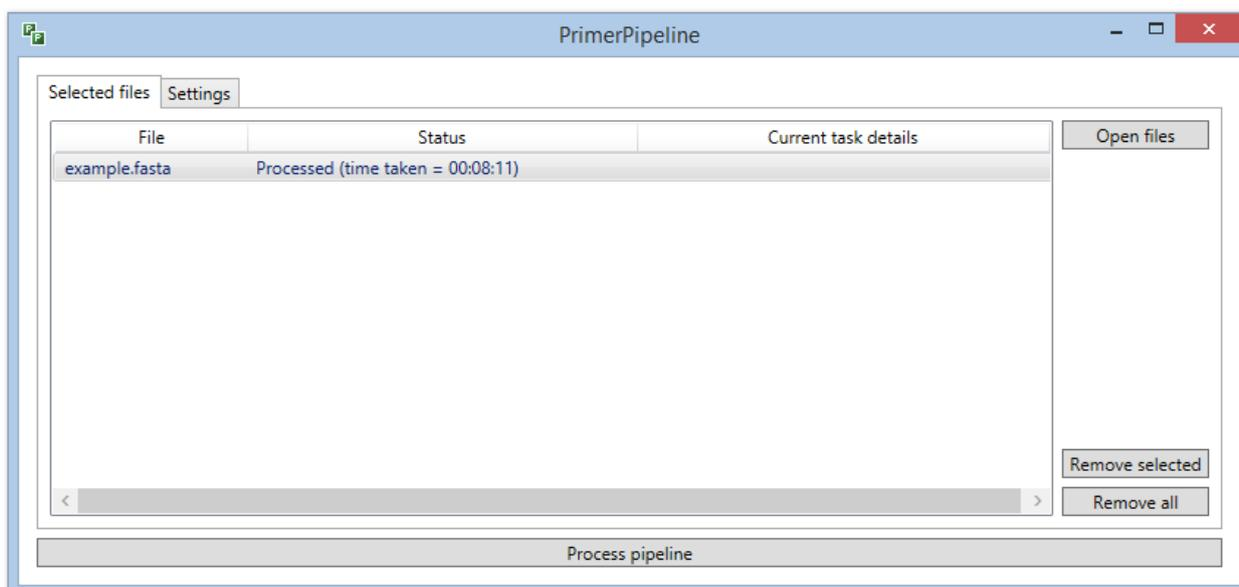
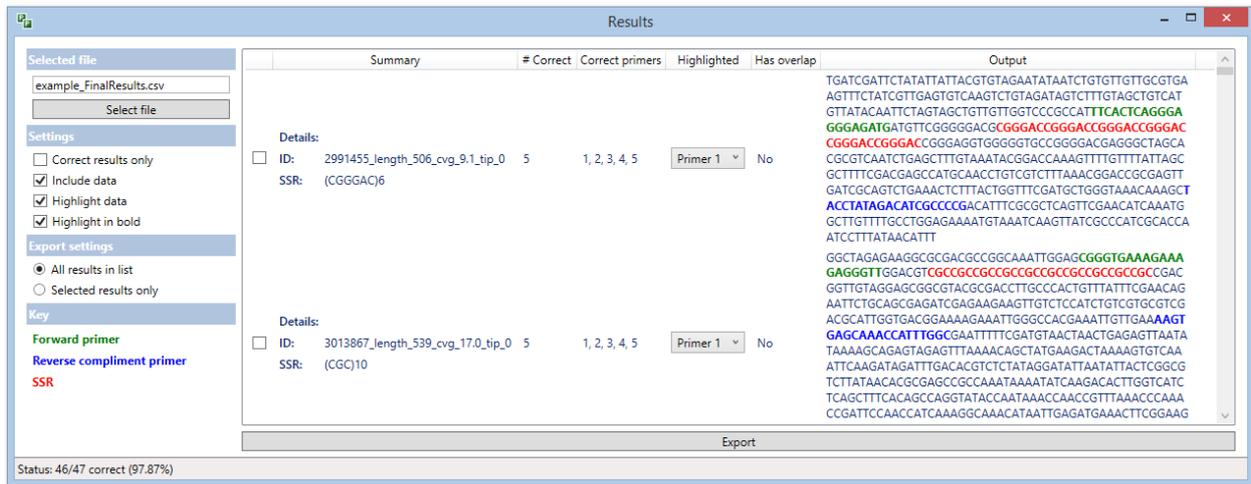
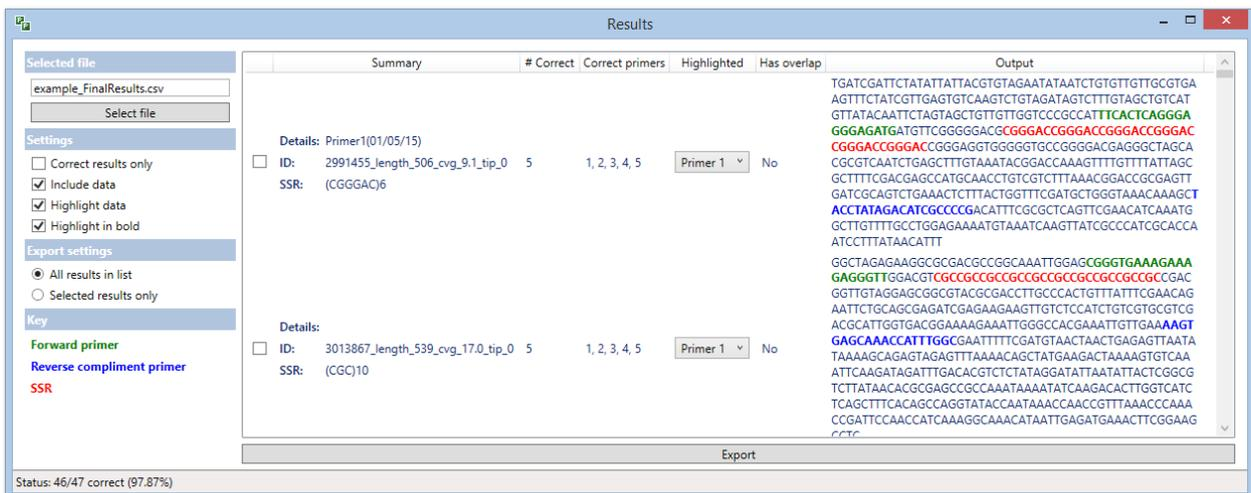

Figure 13. How **PrimerPipeline** looks when the pipeline has finished.
Figure 14. PrimerPipeline Results Window.
Figure 15. PrimerPipeline Results Window displaying information added in the 'Details' column of the FinalResults.csv.
- When **PrimerPipeline** has finished (Figure 13) you can right-click on the file and go to ‘view results’ which will take you to the *Results* window (Figure 14).
When the pipeline has finished, the status will say 'Processed' (Figure 13). Right-click on the file, and click *View results*, this will open the 'Results' window (Figure 14).
- **Ensuring correct results.** The status at the bottom of the 'Results' window (Figure 14) shows the results from an automatic check. The program has checked that the microsatellite and primer positions are in the correct order and do not overlap with each other. So you know that no errors in Primer3 have been made. If you see that a few primers are not correct, you can select *Correct results only* in the 'Settings', and click the *Export* button at the bottom (Figure 14), **PrimerPipeline** will ask you to 'Save as' to export all the correct sequences into a new .csv file.
- 2) To add a more user-friendly name for the primer pairs that you will order (a 'Details' column in the FinalResults.csv file is felt empty for this purpose, see Figure 15).
Details: Is the empty 'Details' column in the .csv file, allowing you to give the primers a new name or add any other extra information. If you write it in the column in excel and save as '.csv' it can be displayed by **PrimerPipeline**. If you haven't added your own names, this will be empty like in Figure 14, if you add a detail; it will look like Figure 15.